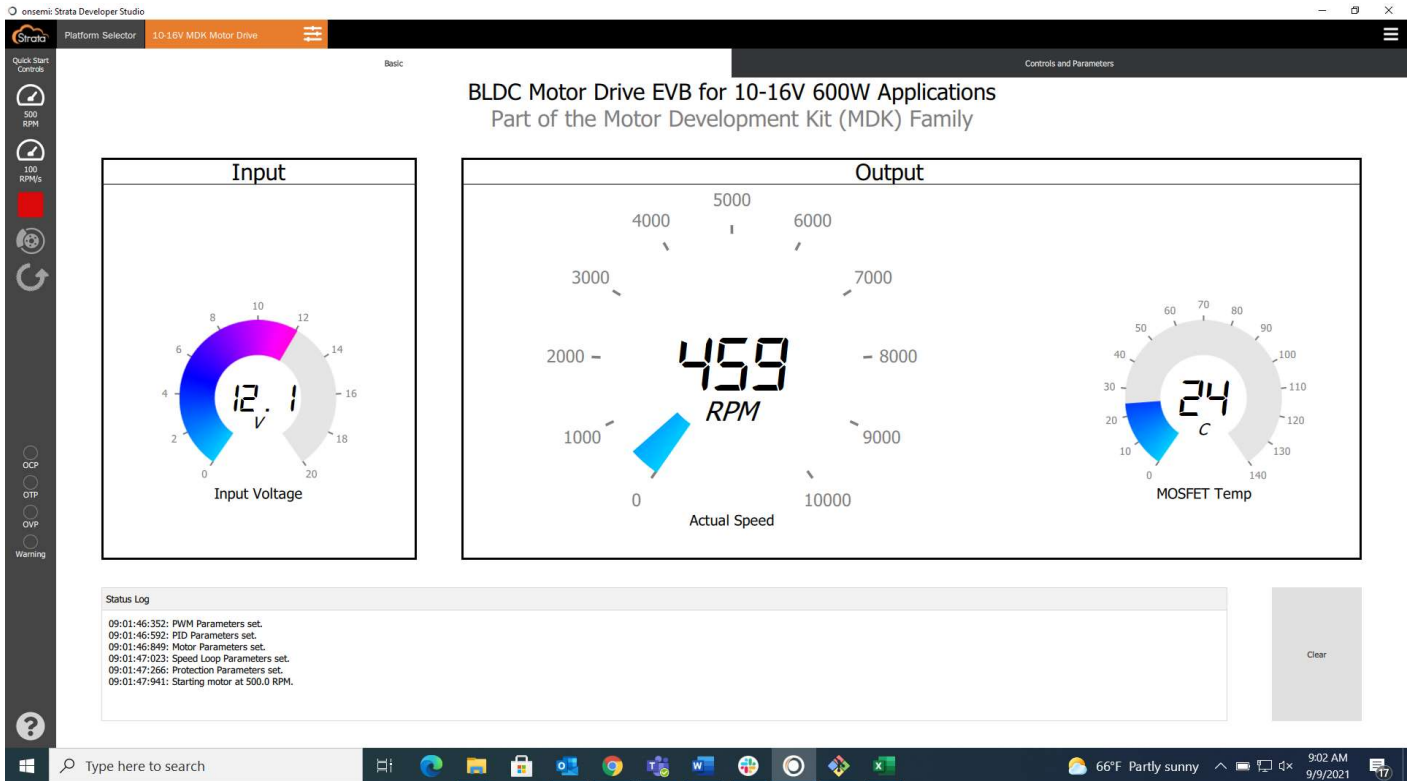

Figure 2 Basic View
4. Figure 2 shows the view for the 12V EVB, one of the 4 available variants of the BLDC MDK EVB. It offers telemetry such as: input voltage, RPM, MOSFET temperature, fault status: OCP, OVP, OTP, and a status log for error and warning messages. It also offers controls for RPM, acceleration, Run/Stop and direction of the motor.